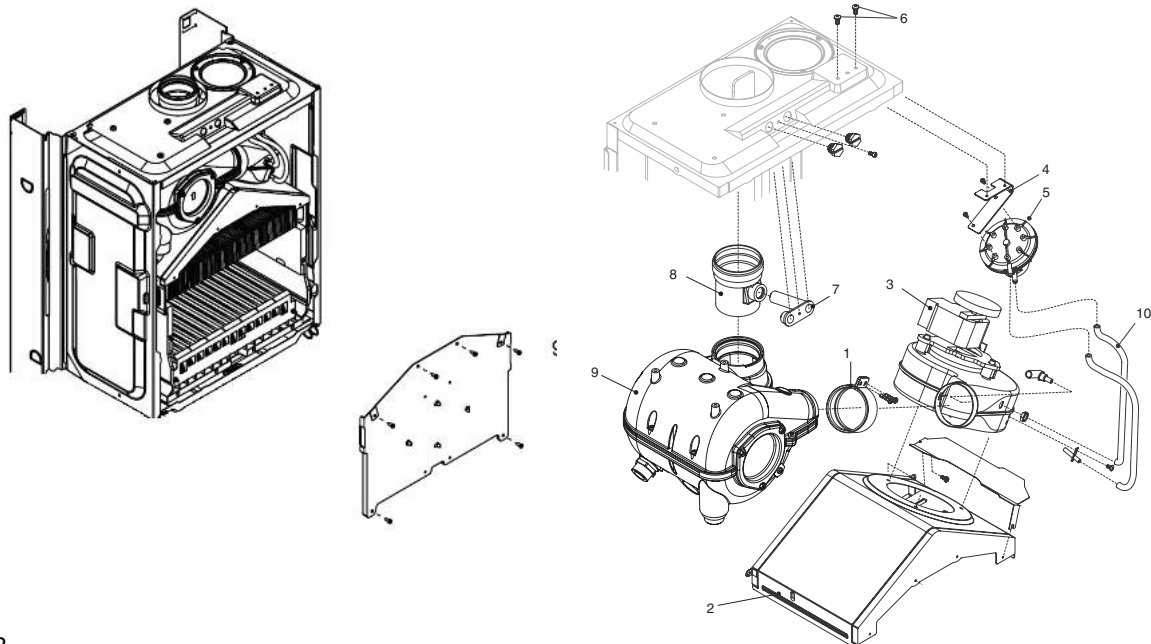

Fig. 23
6.16 FLUE FAN fig. 23
6.18 AIR PRESSURE SWITCH fig. 23
6.17 MAIN HEAT EXCHANGER fig. 23/24